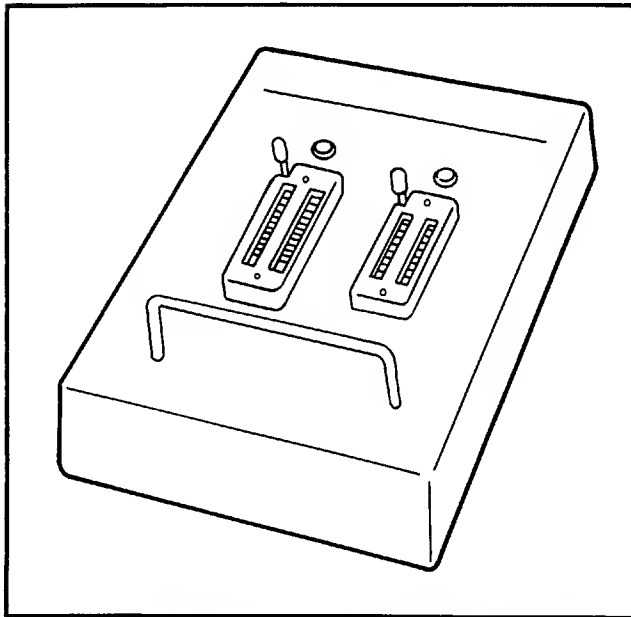

Figure 1-1. 303A-006 TI PAL Programming/Testing Adapter
The 303A-006 Texas Instruments (TI) PAL® programming/testing (P/T) adapter consists of two zero-insertion force sockets with interface circuitry and EPROM (erasable, programmable read-only memory) mounted in a metal frame; see figure 1-1. The P/T adapter is used with the Data I/O 303A LogicPak™ to match programming electronics to the specific device family you are using. Any firmware unique to the TI PAL programmable logic devices is resident in the EPROM on the P/T adapter; all other necessary firmware is in the LogicPak™ or the programmer.